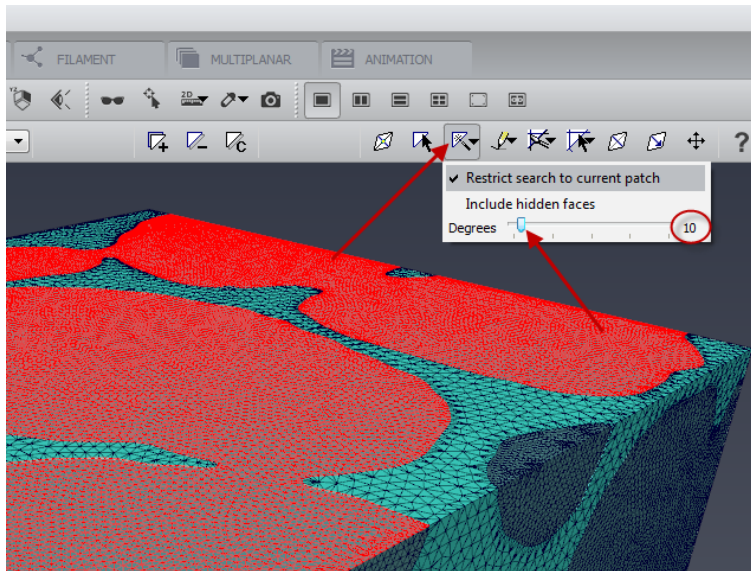

Figure 7.32: Using the *Magic Wand* to select a patch of coplanar triangles.
- Set the *Degrees* parameter to a value small enough, such as 10 (see Figure 7.32).